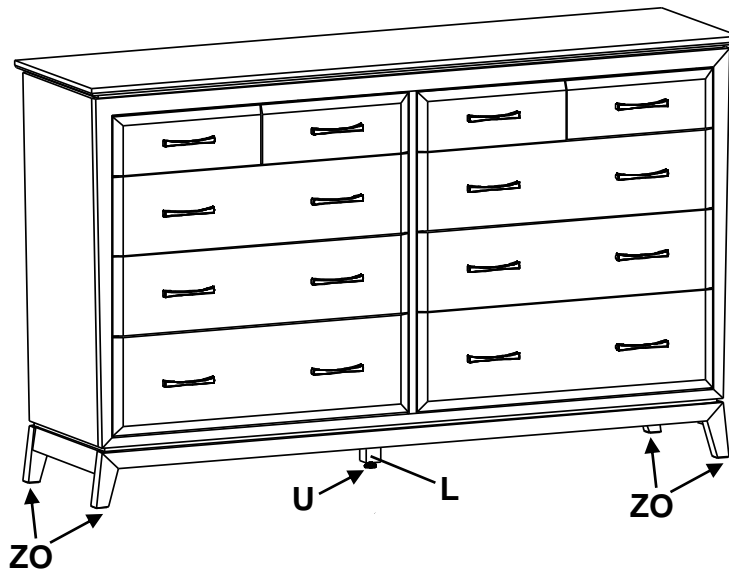

Fig. 4
4. Place the unit at its final destination. Rotate the Small Adjustable Glides (ZO) found at the corners of the unit and the Adjustable Glide with Hex Nut (U) at the bottom of the Assembled Foot (L) until the unit is level. See Figure 4.